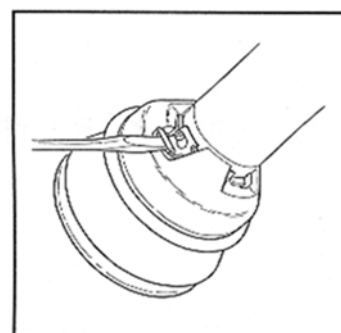

Figure 51: Remove Tab
1. Remove the EASY LOCK® tab with a screwdriver Figure 51.